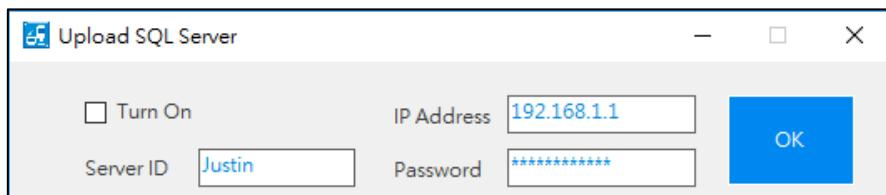

Figure 5-1-3 SQL database basic connection setting
- (1) **SQL database basic connection setting:** Mainly defines basic SQL server connection parameters, including whether to turn on SQL upload, database IP address, and database account password, as shown in Figure 5-1-3. If **[Turn on]** is checked, DIAServoPress will upload pressing data to the connected SQL server database after each pressing. Server connection data includes the IP address, connection account, and connection password, which are to be used together with **[Create Database]** and **[Connect Database]**. Be sure to complete valid server and database connections before performing uploads.